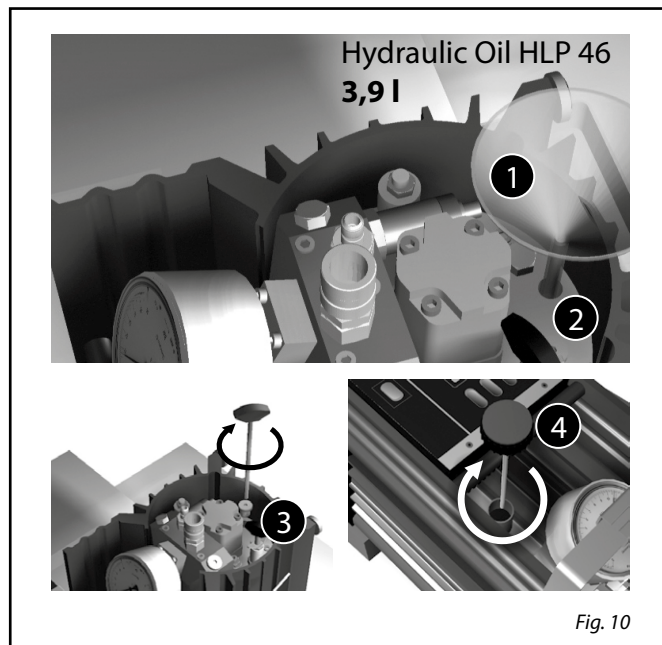

Fig. 10
hex head wrench. Recommended torque: 35 Nm (25.8 ft.lbs). Return the Hydraulic Power Unit carefully to the horizontal position and install dipstick (4) in clockwise direction (Fig. 10).